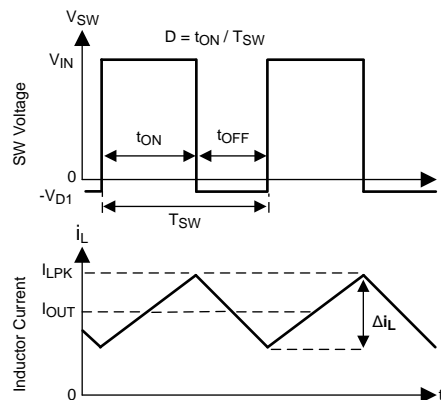

Figure 33. SW Node and Inductor Current Waveforms in Continuous Conduction Mode (CCM)
The following operating description of the LM46002 will refer to the Functional Block Diagram and to the waveforms in Figure 33. The LM46002 is a step-down Buck regulator with both high-side (HS) switch and low-side (LS) switch (synchronous rectifier) integrated. The LM46002 supplies a regulated output voltage by turning on the HS and LS NMOS switches with controlled ON time. During the HS switch ON time, the SW pin voltage V_{SW} swings up to approximately V_{IN} , and the inductor current I_L increases with a linear slope $(V_{IN} - V_{OUT}) / L$. When the HS switch is turned off by the control logic, the LS switch is turned on after a anti-shoot-through dead time. Inductor current discharges through the LS switch with a slope of $-V_{OUT} / L$. The control parameter of Buck converters are defined as Duty Cycle $D = t_{ON} / T_{SW}$, where t_{ON} is the HS switch ON time and T_{SW} is the switching period. The regulator control loop maintains a constant output voltage by adjusting the duty cycle D . In an ideal Buck converter, where losses are ignored, D is proportional to the output voltage and inversely proportional to the input voltage: $D = V_{OUT} / V_{IN}$.